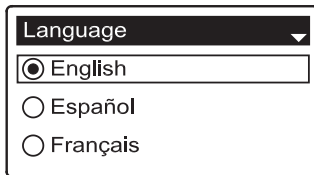

FIG. 26
- 1. LANGUAGE** If the desired language already has a black dot next to it (See Figure 26), go to Step 2. Otherwise, press the conditioner/refiner’s DOWN (▼) or UP (▲) buttons to scroll to the desired language, then press the SELECT (○) button to choose it.